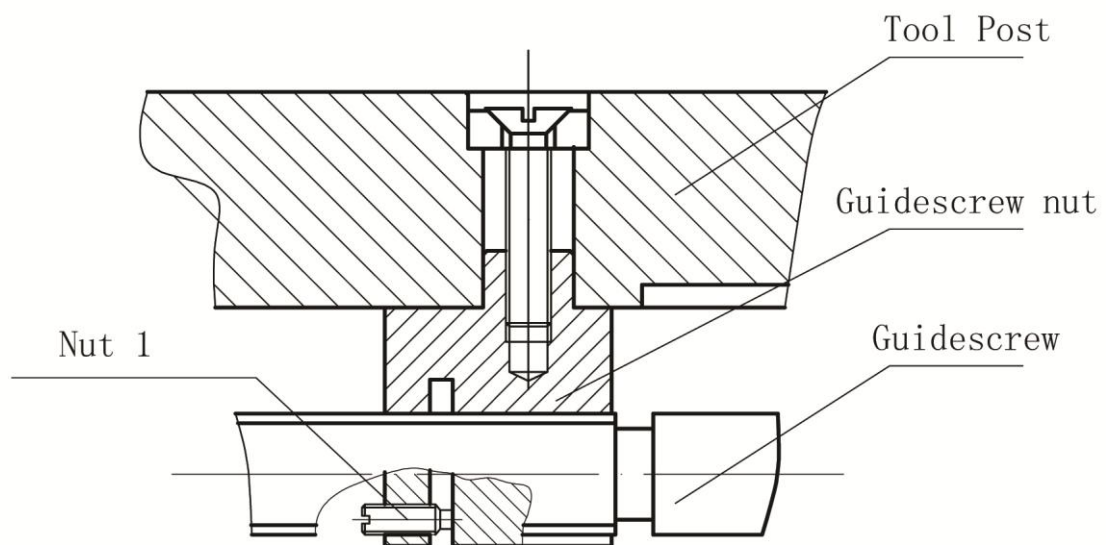

Fig 10 Adjust the gap of horizontal feeding nut
3) gap adjustment of guidescrew nut:see fig10,Turn screw 1 to eliminate the gap ,the gap can't be too small or wear is intensified.